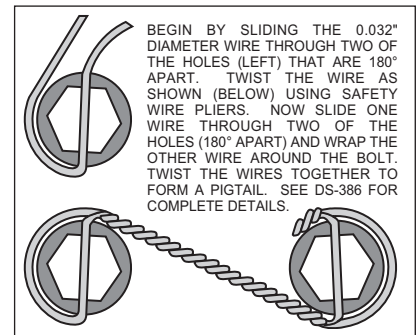

Figure 3. Safety Wire Diagram
- With the larger I.D. side of the rotor (4) facing away from the hat (5), bolt the rotor (4) to the hat (5) through the backside of the rotor using washers (6) and bolts (7). Torque bolts (7) in an alternating sequence to 85 **in-lb**. Safety wire bolts (7) using standard 0.032 inch diameter stainless steel safety wire as shown in Figure 3. Please refer to Wilwood's data sheet DS-386 (available at www.wilwood.com/pdf/ds386.pdf) for complete safety wire installation instructions.
- Install one washer (8) over each pre-installed stud (9) on the radial mount bracket (1). Slide the caliper (10) in place over the studs and rotors and install the washer (12) and lock nut (11) to hold the caliper in place. The caliper bleed screws should be pointing up. Snug the lock nuts (11) and check that the rotor (4) is centered in the caliper (10). Add or subtract .03" shims (3) as necessary between the caliper mounting bracket (1) and the spindle to center the caliper (10).
- Remove the caliper center bridge pad retainer bolt, nut, and tube from the caliper. Slide the brake pads (13) into place. They should install easily without interference. Check that the outside radius of the brake pad is aligned with the outside diameter radius of the rotor face. Add or subtract shims (8) between the caliper and mount bracket to gain the proper alignment. Reinstall the center bridge pad retainer tube, bolt, and lock nut. The locknut should be snug without play in the bolt or tube. Be cautious not to over tighten.
- Once all clearances have been checked, remove the wheel, caliper, hat, and rotor from the spindle and hub. Secure the caliper mounting bracket (1) to the spindle using red *Loctite*® 271. Torque the bolts to 65 ft-lbs. Reinstall the hat and rotor assembly and again use several wheel bolts to hold it in place. Lubricate caliper mounting studs and nuts with lightweight oil, reinstall the caliper, torque the caliper nuts (11) to 30-35 ft-lbs.